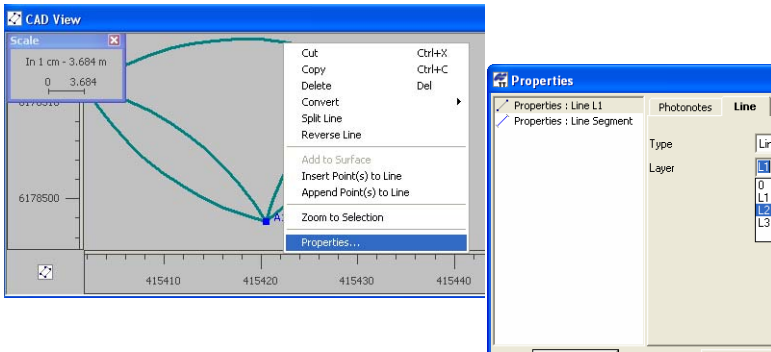

Figure 5-85. Select a Different Layer from the Drop-down List
- Right-click on the line (or selected lines) in the CAD View and select the Properties from pop-up menu. Select a different layer from the drop-down list in the Properties window (Figure 5-85).